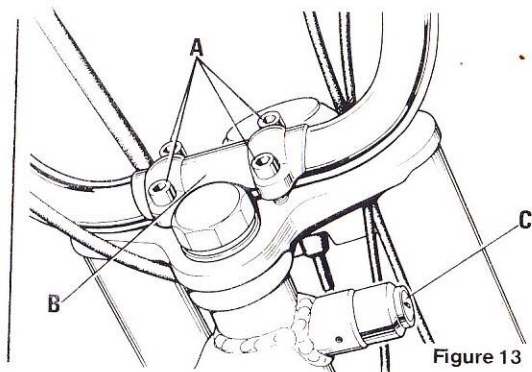

Figure 13
It is recommended that the steering lock shown as 'C' in Fig.13 is used whenever your 'Easy-Rider' is parked. To apply, turn fork onto full left lock, push key in, turn clockwise and withdraw the key. This is important not only for your own protection but also to comply with the requirements of many insurers that all reasonable steps be taken to protect the machine from theft. The key must be removed from steering lock before riding machine.
By slackening the four screws (A) on the handlebar clamp (B) in Fig. 13 the handlebar may be moved nearer or further away from the rider as desired. After adjustment do not forget to retighten all four screws.